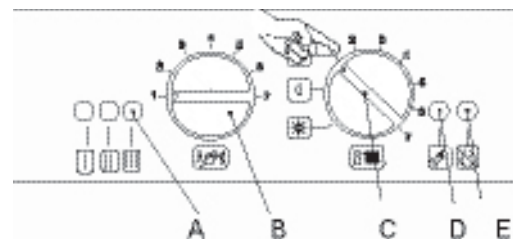

Figure 15.3
- Turn the function selector C as in Fig. 15.3. The appliance operation light A will flash every 2 seconds.
To reset the boiler turn the knob C (figure 15.3) on the 0 position and then press and release the boiler reset button D (Fig. 15.3).
With the burner on high flame close the gas cock. After three ignition attempts (within about three minutes), the lock-out signal lamp must appear (D on Figure 15.3). To reset the boiler turn the knob B (figure 15.3) on the 0 position and then press and release the boiler reset button (C on Figure 15.3).